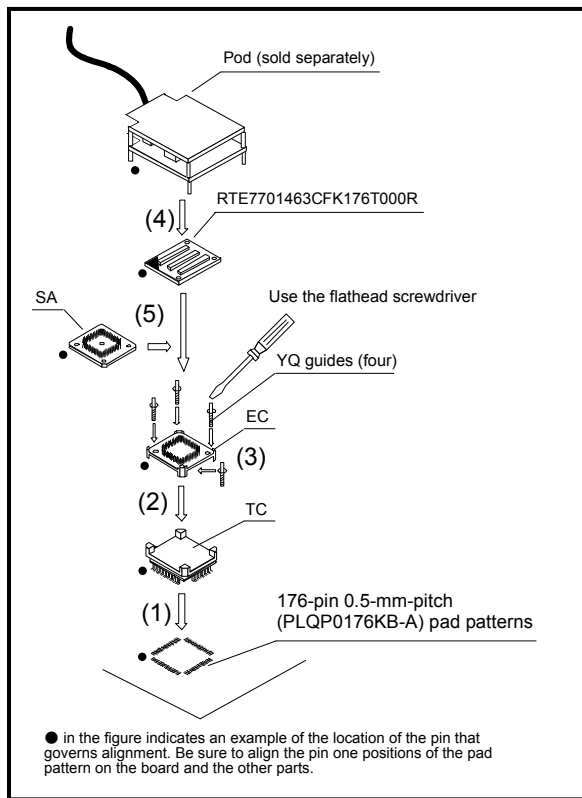

Figure 3 Procedure for Connecting the RTE7701463CFK176T000R
5. Connection Procedure (See Figure 3)